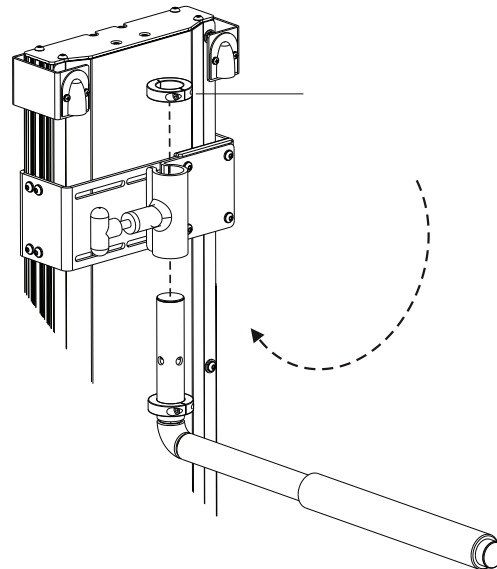

Figure 5-7
4. Flip the hold-down arm, insert it from the bottom, and fasten the shaft collar on top (10 ft-lbs). *See Figures 5-7 and 5-8.*